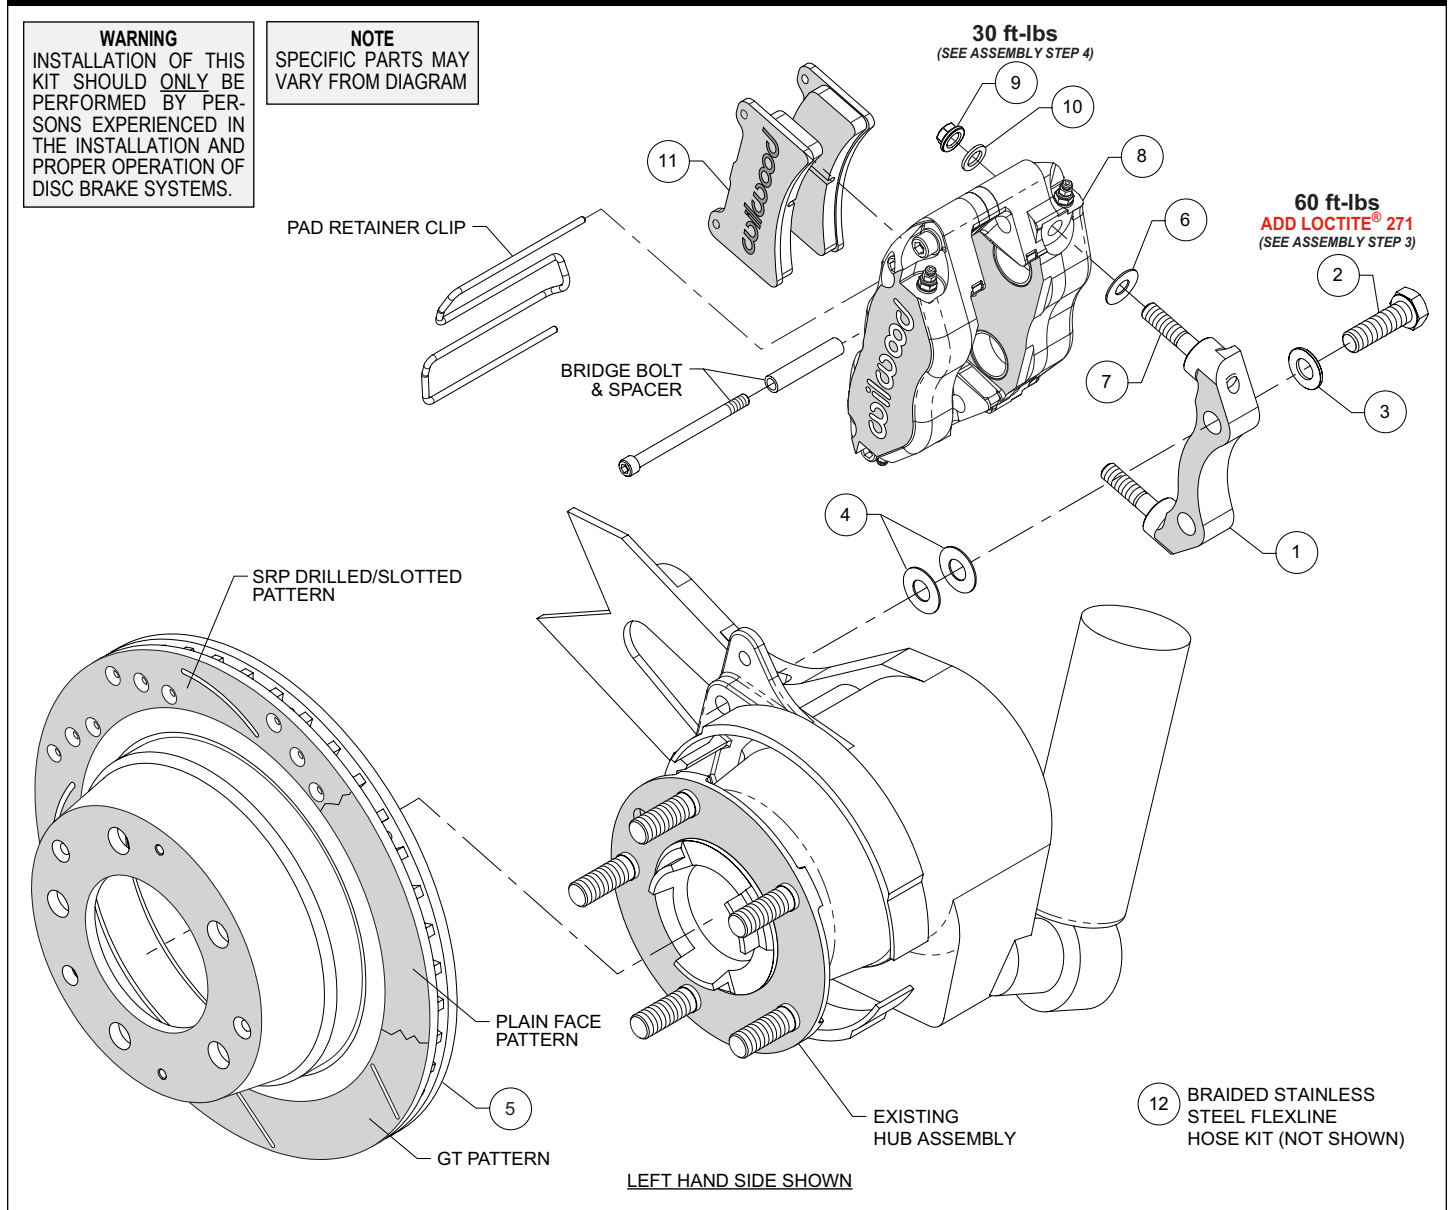

Figure 1. Typical Installation Configuration
NOTE: Numbers in parenthesis refer to the parts list and Figure 1 on the preceding pages.
STEP 1 The caliper mount bracket (1) should initially be installed with clean, dry threads on the mounting bolts. Orient the bracket, as shown in Figure 1 and Photo 1, and install using bolts (2) and washers (3). Initially place two .033" thick shims (4) on each bolt between the bracket (1) and upright, Figure 1 and Photo 2 (see arrows). Temporarily tighten the mounting bolts. **NOTE:** The bracket must fit squarely against the mount bosses on the upright. Inspect for interference from casting irregularities, machining ridges, burrs, etc.
STEP 2 For kits 140-16682 and 140-17003, install the Wilwood rotor (5) onto the hub assembly, Figure 1 and Photo 4.
STEP 3 Initially place one .035" thick shim (6) on each stud (7) between the caliper (8) and the bracket (1), as shown in Figure 1 and Photo 3. Mount the caliper (8) onto the bracket (1) using lock nuts (9) and washers (10), Figure 1. Temporarily tighten the lock nuts. View the rotor through the top opening of the caliper. The rotor should be centered in the caliper, Photo 5. If not, adjust by adding or subtracting shims (4) between the bracket (1) and the upright. Always use the same amount of shims on each of the two mounting bolts. Once the caliper alignment is correct, remove the bracket mounting bolts (2) one at a time, apply red *Loctite*® 271 to the threads, and torque to value shown in Figure 1.
STEP 4 Remove the caliper pad retainer clip, bridge bolt and spacer from the caliper, Figure 1. Insert the brake pads (11) into the caliper, with the friction material facing the rotor, Photo 6. Check that the top of the brake pad is flush with the outside diameter of the rotor, Photo 7. If not, adjust by adding or subtracting shims (6) to the stud between the caliper (8) and the caliper mount bracket (1). After the caliper pad height is set, torque the caliper lock nuts 9) to value shown in Figure 1. Secure the brake pads in place with the pad retainer clip and reinstall the bridge bolt and spacer.
STEP 6 Attach supplied brake line to caliper. **NOTE:** OEM rubber brake hoses generally cannot be adapted to Wilwood calipers. Install Wilwood's stainless steel braided flexline hose kit (12), P/N 220-16710 included with this kit, as shown in Photo 9. The caliper inlet fitting is a 1/8-27 NPT. Use the included steel adapter fitting at the caliper (use PTFE tape on the pipe threads of adapter fitting for proper sealing to caliper). **Ensure hoses are routed to prevent contact with moving suspension, brake or wheel components.**